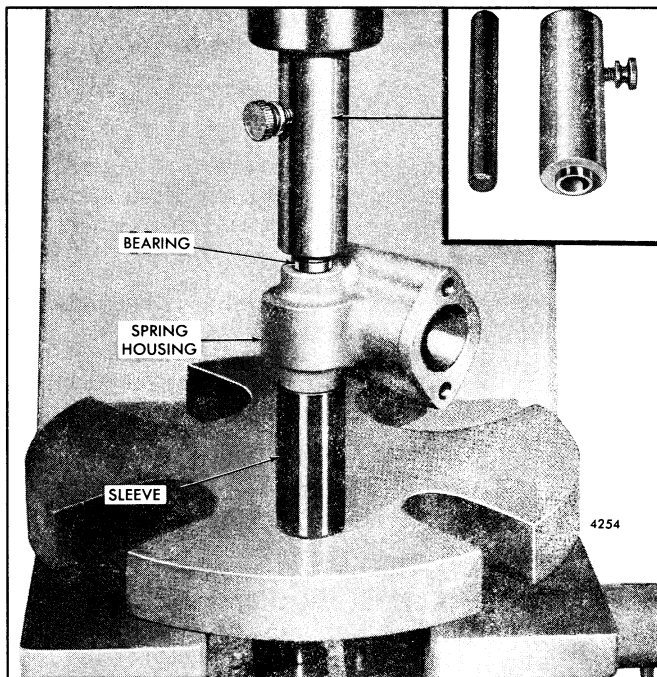

Fig. 15 - Installing Speed Control Shaft Bearings using Tool J 9196
- c. Install the needle bearing pilot rod J 9196-2 in the installer body J 9196-1 and secure it in place with the retaining screw (Fig. 15).
- f. Place the spring lever (8) between the bearing bores in the spring housing. Align the key in the shaft with the keyway in the spring lever. Push the shaft through the lever until the flat on the shaft is directly opposite the set screw.
- j. Remove the bearing pilot rod J 9196-2 from the installer body J 9196-1 and place the installer body over the end of the shaft and against the bearing. Support the spring housing, bearings and installer on a short sleeve on the bed of an arbor press (Fig. 15). Then, press the bearing in the housing until the shoulder on the installer contacts the housing.
- k. Apply some good quality sealant around the cup plug (71). Tap the plug in the shaft opening.
1. Place the seal (67) over the end of the shaft and into the counterbore of the spring housing. Place the plain washer (66) over the end of the shaft and insert the key (65) in the key way of the shaft.